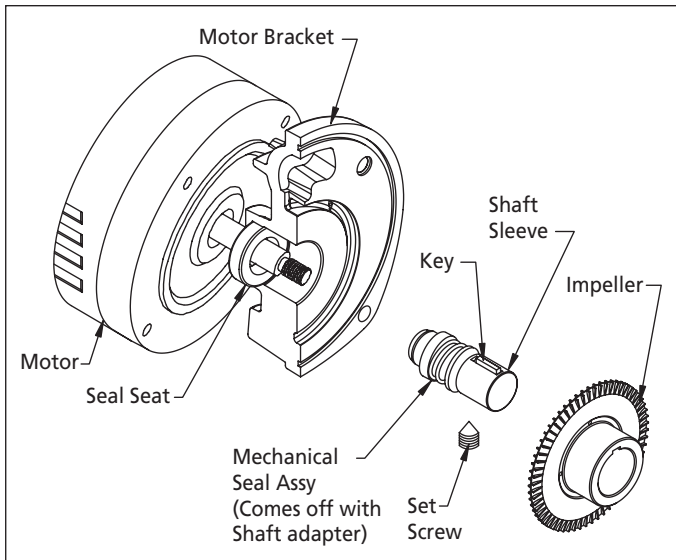

Figure 4 - Impeller, Sleeve and Assembly Removal
2. The impeller floats on the pump shaft sleeve; therefore it can be readily removed (See Figure 4).
3. Loosen set screw on pump shaft sleeve. Turn the pump shaft sleeve counterclockwise to remove (See Figure 4), as the pump shaft sleeve is threaded on the motor shaft.
4. The seal will come off with the shaft sleeve (See Figure 4).